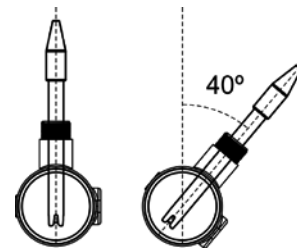

Fig. 13
4. Always install the pH / ORP sensors vertically or with a maximum inclination of 40° (Fig. 13).